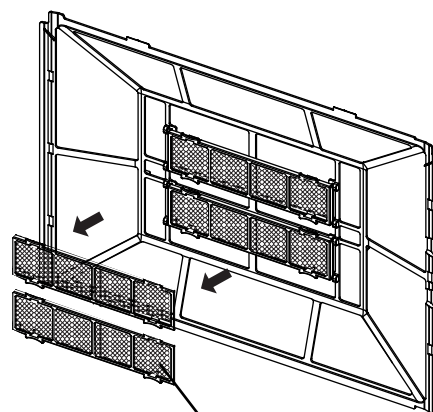

Fig.3
- 3 Take out the 2 special anti-formaldehyde filters. by detaching the 4 fixing claws from the air filter's frame (Fig. 3).